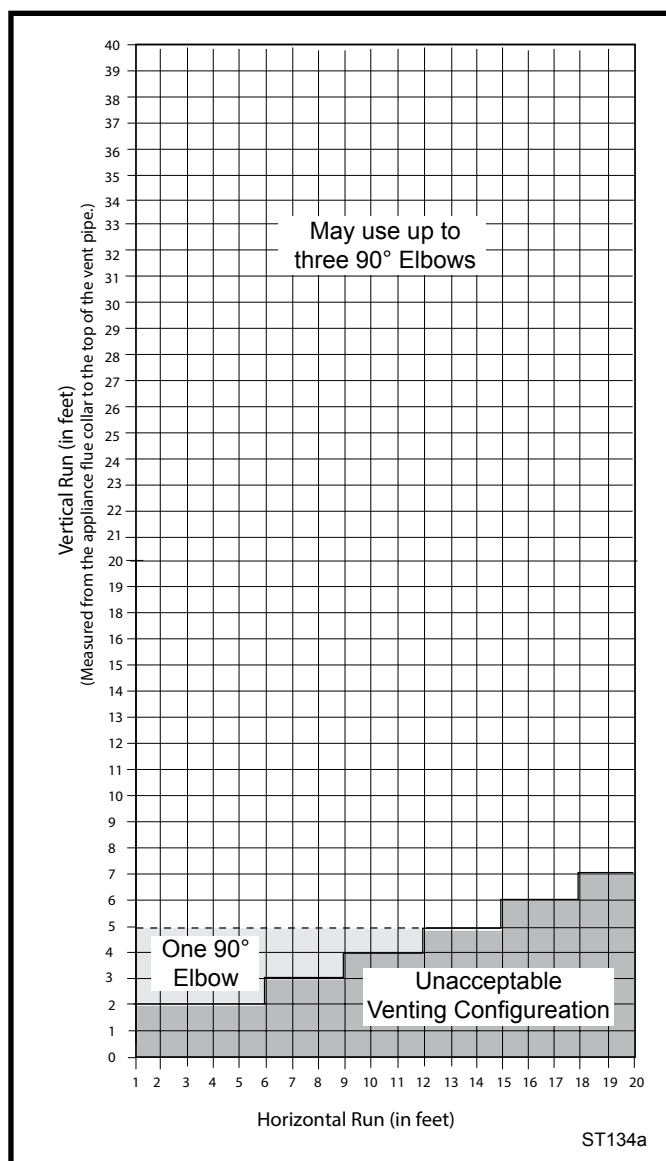

Figure 7 Horizontal vent termination window.
The vent must rise vertically a minimum of 24" (610 mm) off the top of the unit, before the first elbow. The horizontal run may extend up to 20' (6 m) and include a vertical rise of up to 40' (12 m). (Figure 7) Horizontal termination must also meet the criteria shown in Figures 9 through 11.
- Approved vent systems must terminate above and including the heavy line in Figure 7.